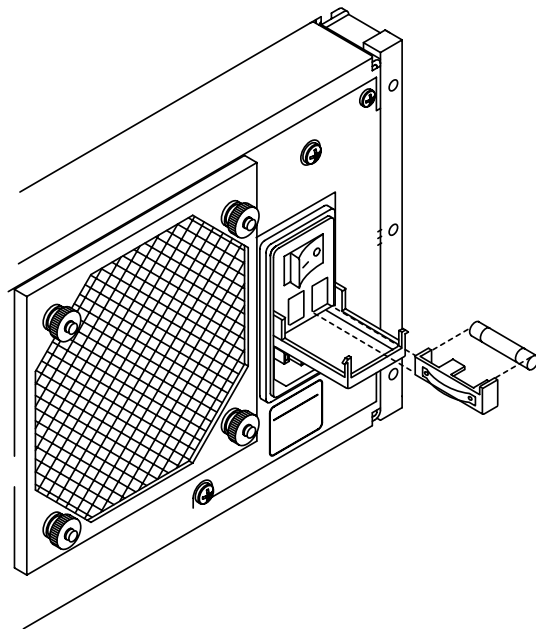

Figure 6-1. Replacing the Line Fuse
- Step 2.** Using a small flat-blade screwdriver, carefully pry under the tab next to the rear panel power switch to open the cover and gain access to the fuse holders (refer to Figure 6-1, below).